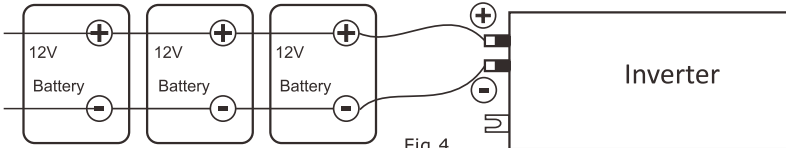

Fig.4
3) Multiple batteries in parallel connection(Refer to Fig.4): Each battery's voltage must be equal to the Nominal DC Voltage of the unit.